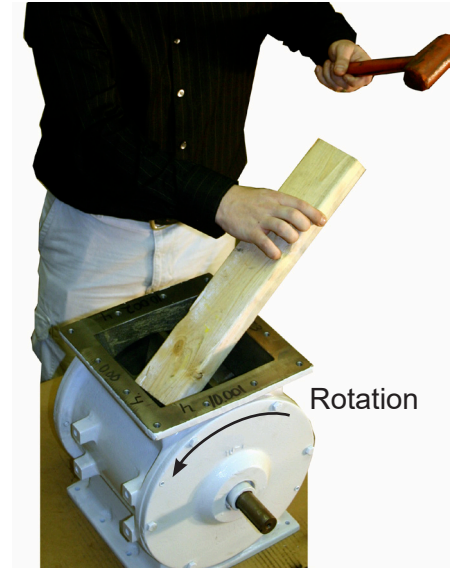

Figure 4
- a. With the airlock chain not attached, use a soft (brass or wood) probe, turn the rotor (see Figure 4). If the rotor turns freely, the inspection is complete. Refer to the maintenance section of this manual if chain needs disconnected.